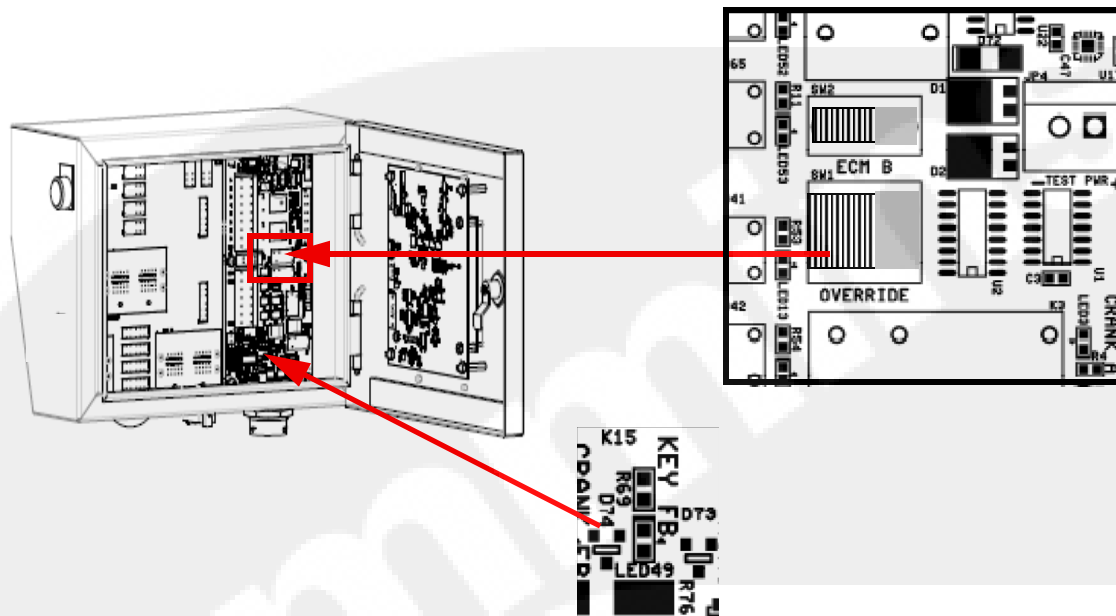

Figure 4-1 FPDP Override Switch
4. As shown in Figure 4-1, open the FPDP panel door and slide the key switch override to the "RIGHT" position. Verify that LED 49 - KEY FB (key feedback) switch is lit.